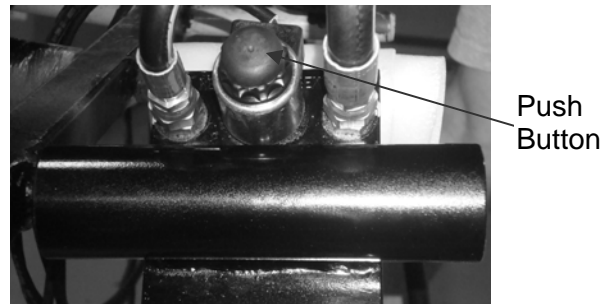

Figure 5-4. Push “Button” Lowering Valve
- Press (push) in and hold the emergency lowering valve “button” on the lift cylinder to relieve all hydraulic pressure to the cylinder. Refer to Figure 5-4.